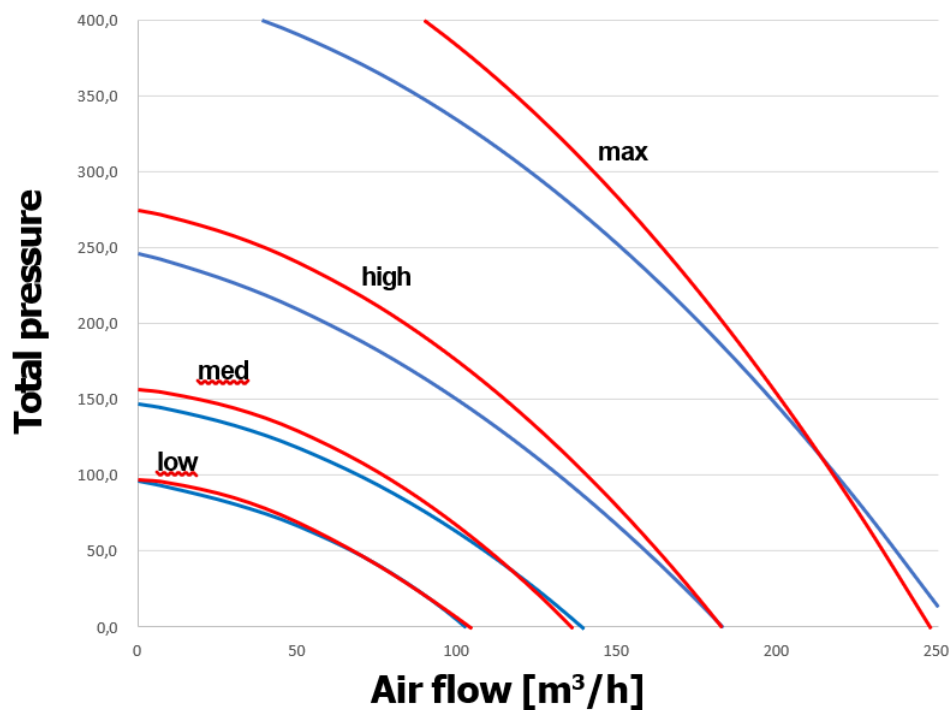

Figure 15. Total pressure for HRU-FlatAIR-225E
- HRU-FlatAIR-225E-H 225  $\text{m}^3/\text{h}$  (at 100 Pa) [Fig. 15]